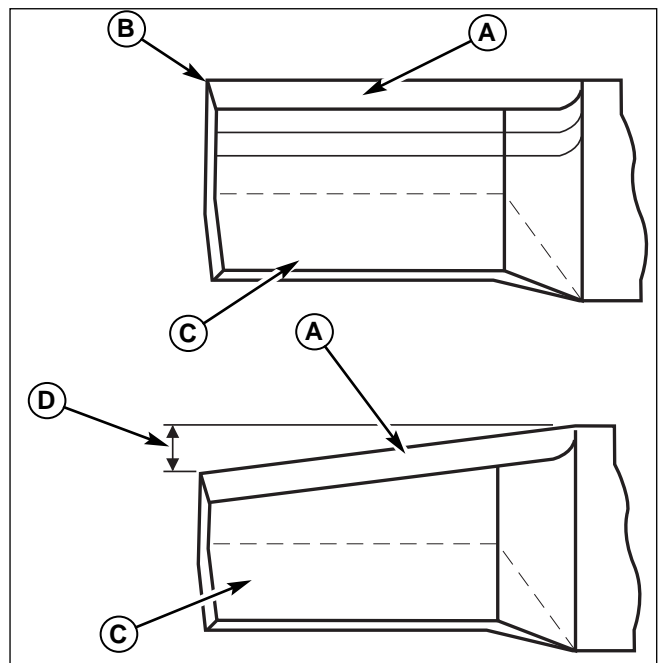

Figure 25. inspecting the Mower Blade Tips
2. Inspect the mower blade (Figures 25 & 26). **Discard the mower blade if it has any of the below conditions.**
- A.) Has more than .5" (12,7 mm) of the mower blade metal removed from previous sharpening or wear (D, Figure 25).